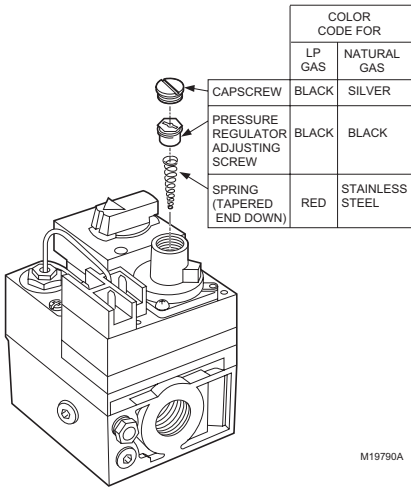

Fig. 2. Conversion kit installation.
4. Insert the replacement spring with the tapered end down. See Fig. 2.
6. Turn pressure regulator adjustment screw clockwise  six (6) complete turns. The preliminary pressure setting is approximately 10.0 in. wc (2.5 kPa) for LP gas regulator (391937) and 3.5 in. wc (0.9 kPa) for natural gas regulator (391936).